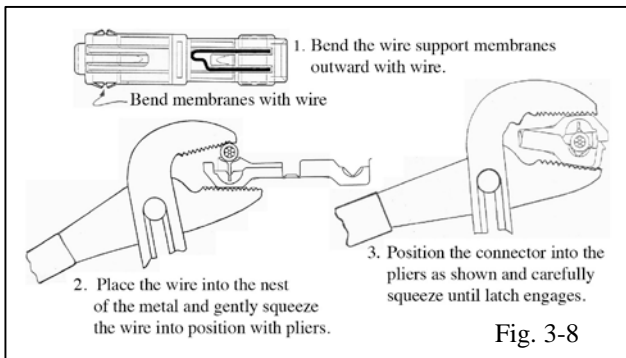

Fig. 3-8
- (k) Review the instructions on how to properly use wire taps (Fig. 3-8).